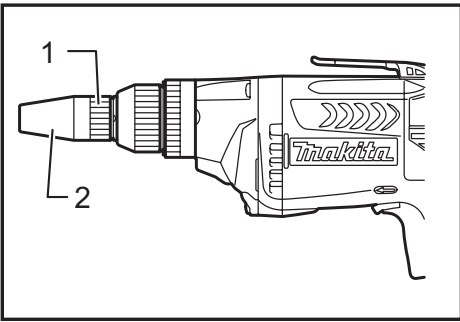

Fig.1
- Fig.1: 1. Locator 2. Front cap